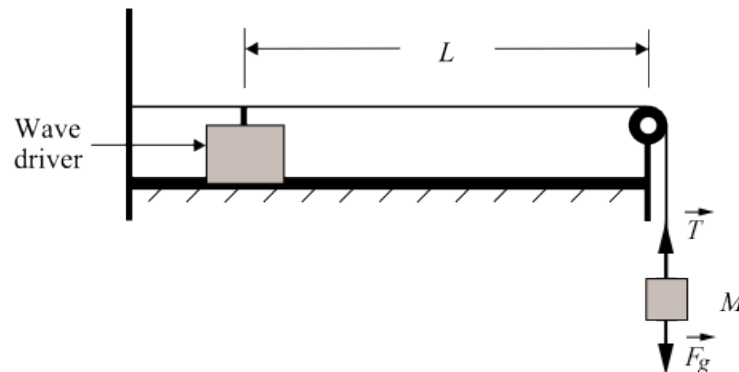

Figure 4: Waves on a string setup Image: ©and courtesy of PASCO scientific
The lab apparatus consists of a string, which is fixed on one end and attached to a weight hanger over a pulley on the other end as shown in Fig. 4.
In Fig. 4, L is the distance between the top of the pulley and the wave driver. Both of these points will be **nodes**.
- Calculate the tension in the string. The mass of the weight holder is 50 g. (Hint: Refer to the force diagram in Fig. 4.) Remember to include the mass of the weight holder.